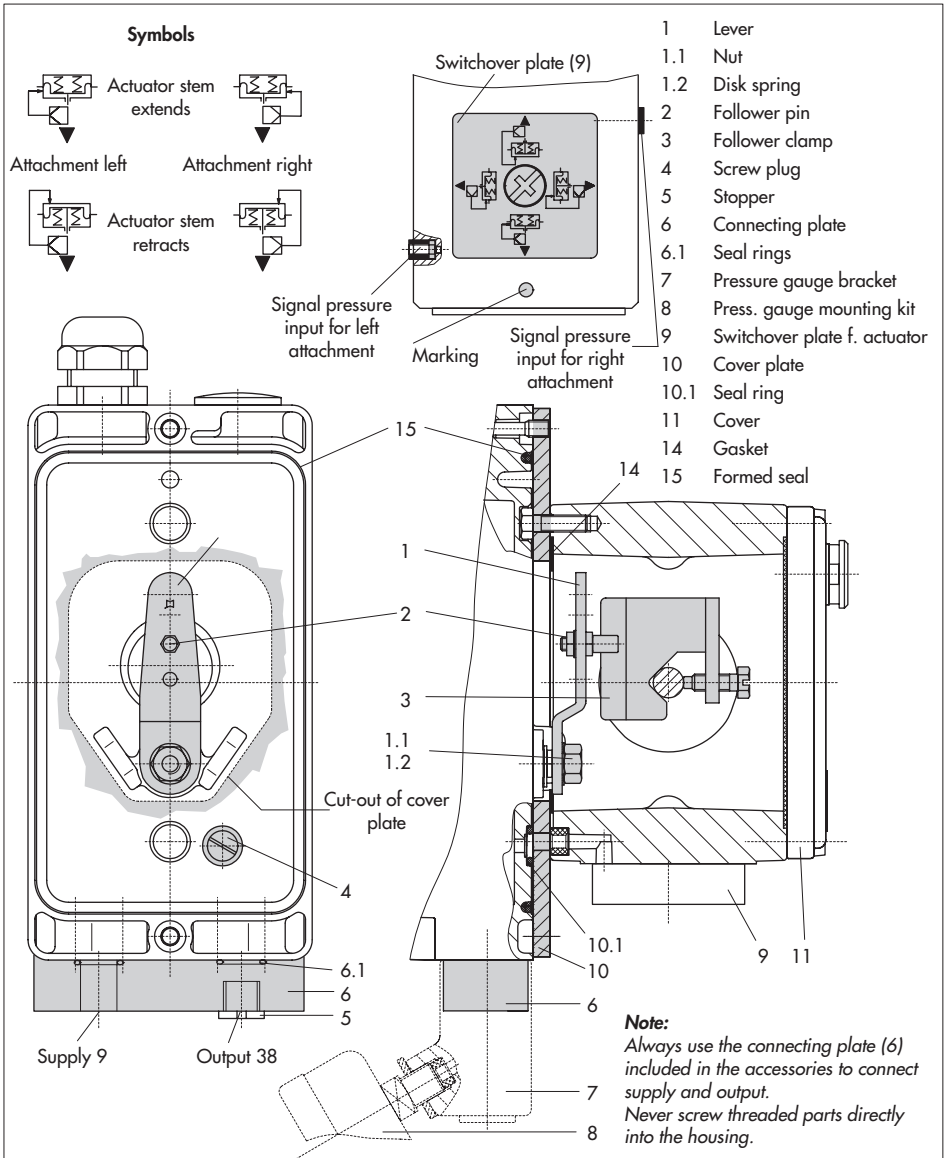

Fig. 4 · Direct attachment – Signal pressure connection for Type 3277-5 Actuator with 120 cm²
1. Mount connecting plate (6) or pressure gauge bracket (7) with pressure gauges onto the positioner, making sure both seal rings (6.1) are seated properly.
2. Remove screw plug (4) on the back of the positioner and close the signal pressure output "Output 38" on the connecting plate (6) or on the pressure gauge bracket (7) with the stopper (5) included in the accessories.
3. Place follower clamp (3) on the actuator stem, align and screw tight so that the mounting screw is located in the groove of the actuator stem.
4. Mount cover plate (10) with narrow side of the cut-out opening (Fig. 4, on the left) pointing towards the signal pressure connection. Make sure that the bonded gasket (14) points towards the actuator yoke.
5. **15 mm travel:** Keep the follower pin (2) at lever **M** (1) on the back of the positioner in the pin position **35** (delivered state).
7.5 mm travel: Remove the follower pin (2) from the pin position **35**, reposition it in the bore for pin position **25** and screw tight.